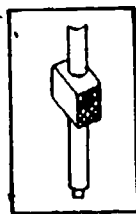

Fig 1-5. Injector timing tool.
b. Detroit diesel engine injector timing tool (fig 1-5). To properly tune-up the Detroit diesel engine, you must adjust the valves and check the injector timing. There are three timing tools with different timing dimensions. Before adjusting the injector timing, check the injector type and number and the tool number. Never use the timing tool as a punch.